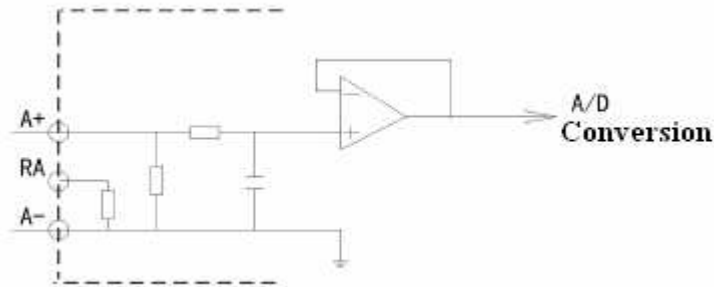

Figure3-2-10 LM3310A Input Channel Equivalent Circuit
Input channel (AI) (voltage, current signal input) equivalent circuit is shown in Figure3-2-10.